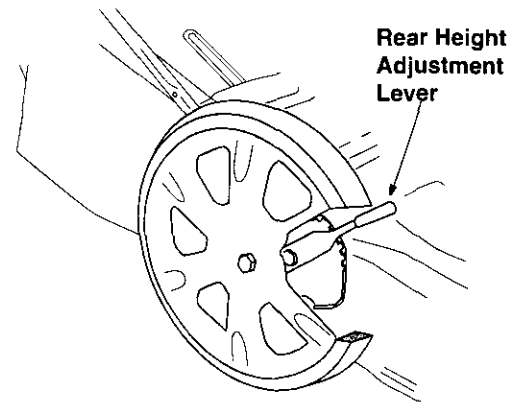
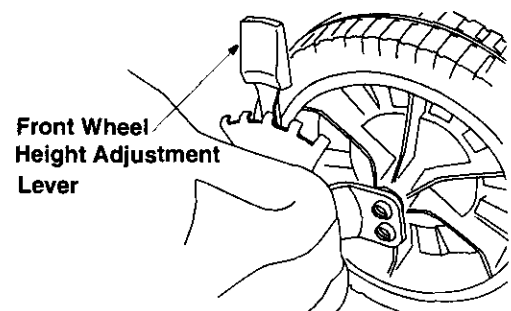

Figure 17
Figure 18
- Simply depress the lever towards wheel and move the wheel and lever assembly to the desired position. Figure 17 shows the rear wheel height adjustment lever and Figure 18 shows the front wheel height adjustment lever. All wheels must be placed in the same relative position for uniform cutting height.